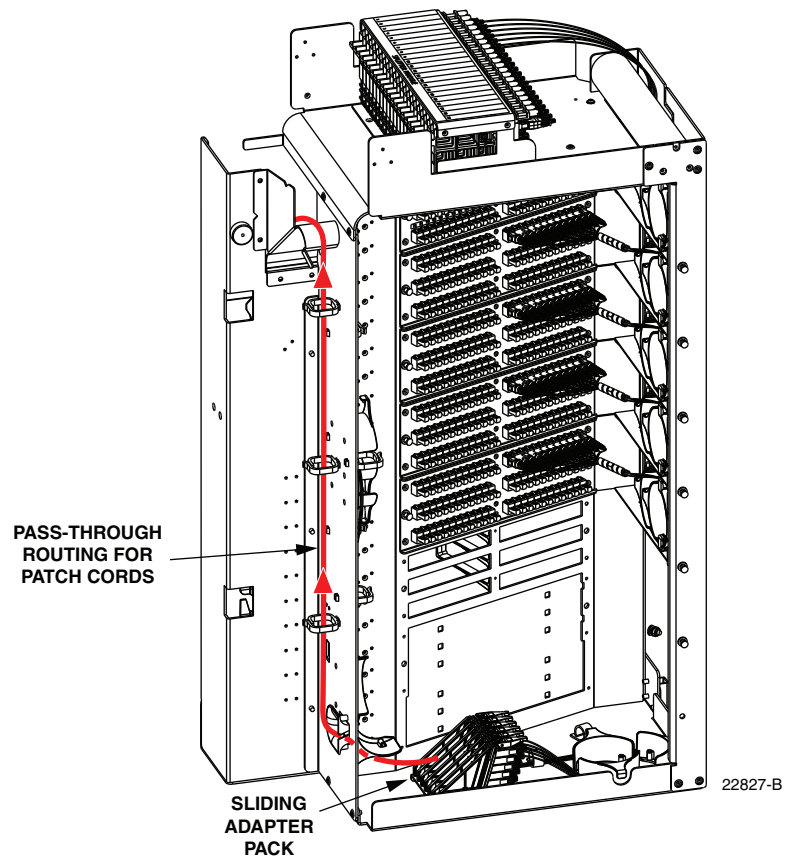

Figure 72. Routing Pass-Through Patch Cord From Sliding Adapter Pack
10. Route the pass-through patch cord to the front side of the swing frame as shown in Figure 72.